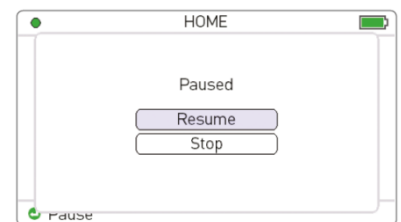

Figure 29. Paused
1. To pause therapy, press . The message "paused" is shown, see *Figure 29*.